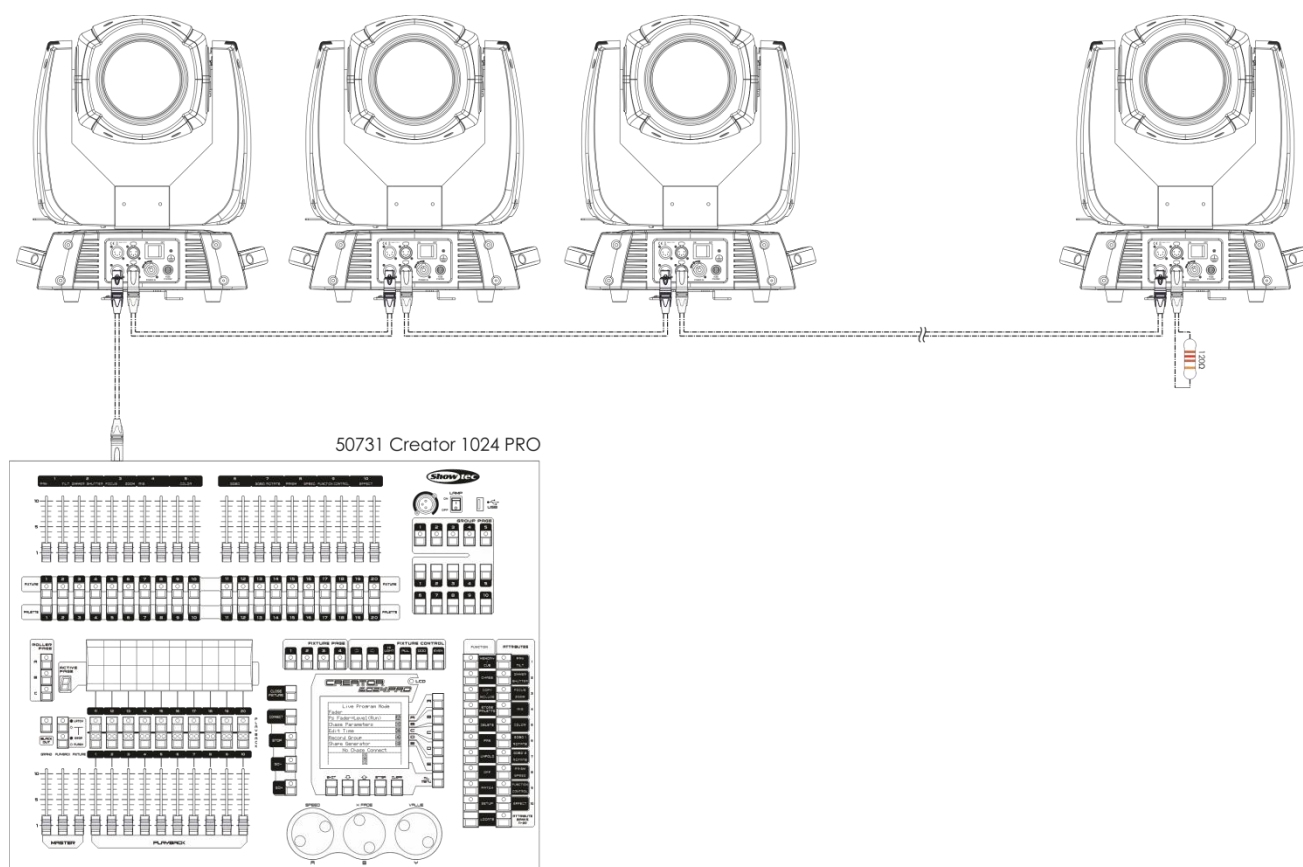

Fig. 03
- 05) Link the units as shown in (fig. 03). Connect a DMX signal cable from the first unit's DMX "out" socket to the second unit's "in" socket. Repeat this process to link the second, third, and fourth units.